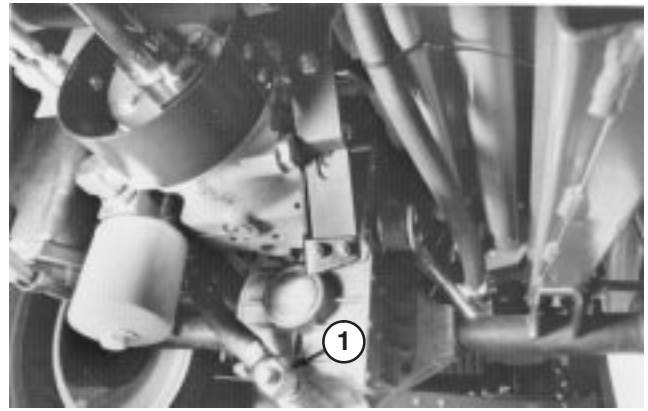

Figure 61
4. Remove drain plug from fitting between axle housing and oil filter and allow oil to flow into drain pan (Fig. 61).
6. Install drain plug in fitting between axle housing and oil filter (Fig. 61).
9. Leave machine set for two additional minutes, then remove dipstick and check oil level in axle (Fig. 62). If level is low, add oil until level matches groove in dipstick (Fig. 62). If level is too high, remove drain plug (Fig. 61) and drain oil until oil level matches groove in dipstick.